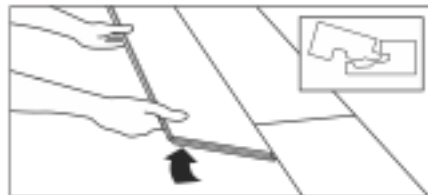

Fig. 4 Beginning the second row.
- Begin the second row of planks with the piece cut from the last piece in the first row. If the piece is shorter than 8" (20.32 cm), cut a new plank in half and use it to begin the second row. Whenever practical, use the piece cut from the preceding row to start the next row. End joints of all planks should be staggered 6" (15.24 cm) or more. Install the long end of the first plank at an angle to the plank in the previous row (Fig. 4). Keep this at its natural angle slightly raised off the subfloor.